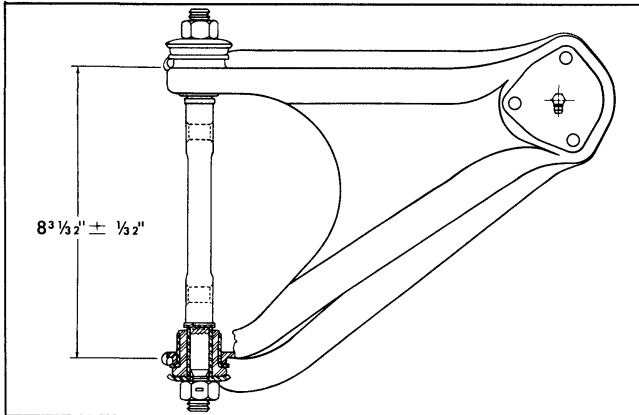
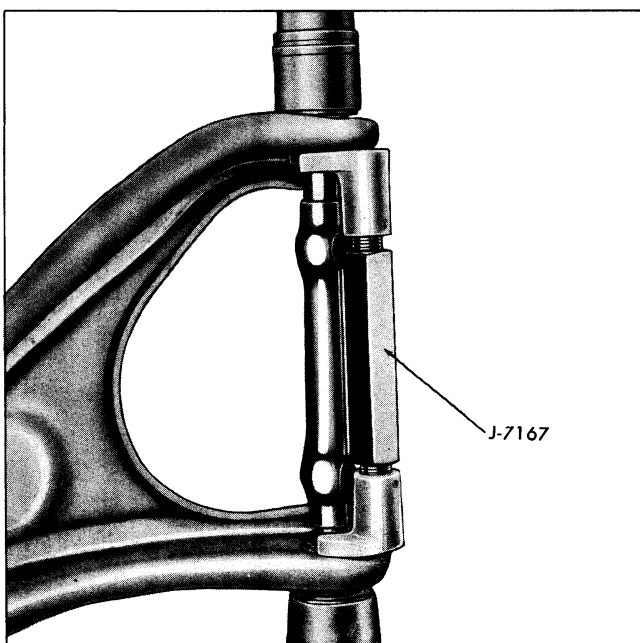

Fig. 3-21 Correct Installation of Upper Control Arm Shaft
Fig. 3-22 Install Front Upper Control Arm Bushings
a. Place tool J-7167 in position (Fig. 3-22) and expand until distance between outer faces of arm is $8\frac{31}{32}$ " (Fig. 3-21).
d. Press bushings on control arm with arbor using large sockets for installers as shown in Fig. 3-22.
f. Line up pivot shaft by rotating shaft in bushing so that frame mounting holes in shaft line up as shown in Fig. 3-21.